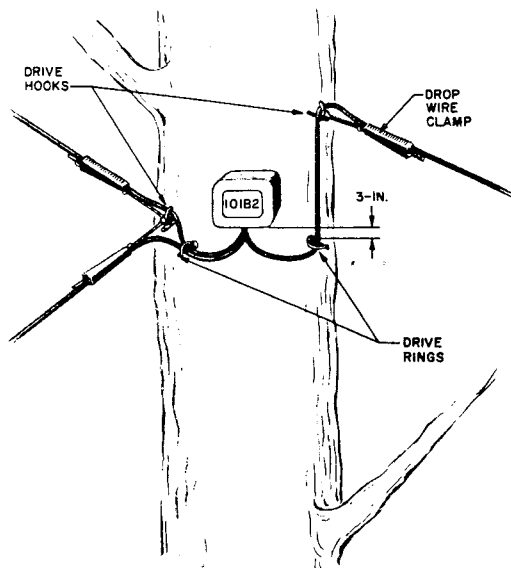

Fig. 19—Party Line Bridge
5.08 Make party line bridges at tree attachments as shown in Fig. 19. Attach the 101B2 terminal to the tree with two 2-inch No. 10 round head galvanized wood screws.